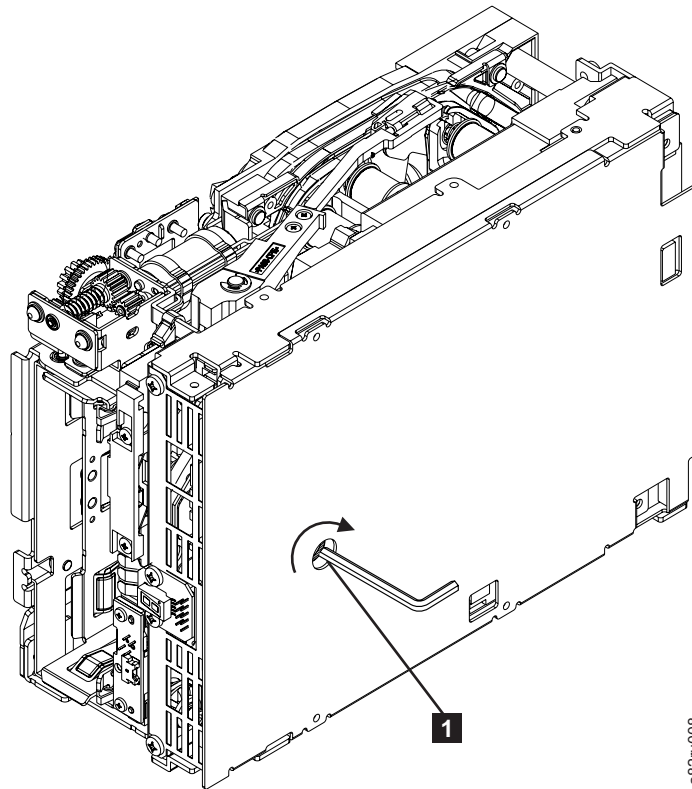

Figure A-15. Using hex wrench to rewind tape into cartridge
3. From the bottom of the drive, locate the access hole (**1** in Figure A-15).
Note: Be sure to keep tension on the tape as the LBA is drawn into the cartridge by using a hex wrench as shown in Figure A-15 on page A-16.